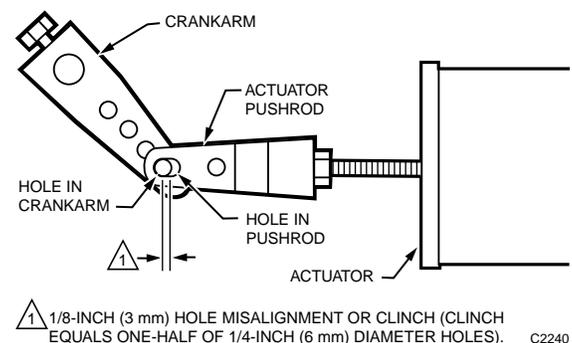

Fig. 18. Threaded Rod Installation.
- c. Adjust actuator pushrod to obtain 1/8 in. (3.2 mm) misalignment in pushrod to crankarm clevis pin hole (Fig. 18).